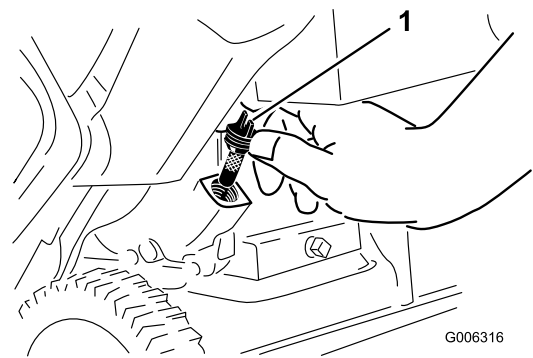

Figure 23
7. Unscrew the dipstick and remove it (Figure 23).